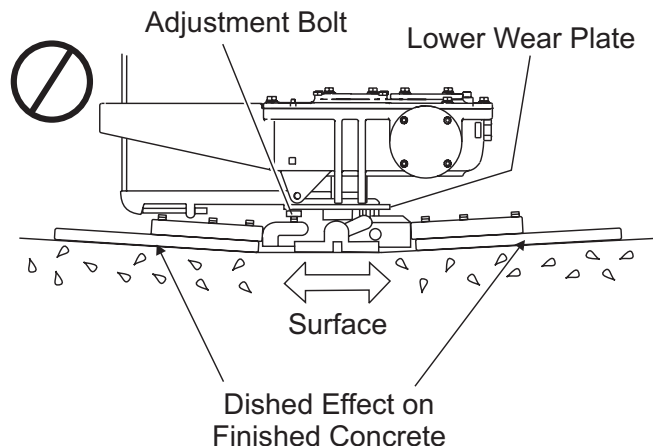

Figure 42. Incorrect Spider Plate Alignment
2. Pitch the blades as flat as possible. The adjustment bolts should all barely make contact with the lower wear plate on the spider. If one is not making contact, adjustment will be necessary (Figure 42).
Figure 42 illustrates incorrect alignment, worn spider bushings, or bent trowel arms. Check that the adjustment bolt is barely touching (0.10" max. clearance) the lower wear plate. All alignment bolts should be spaced the same distance from the lower wear plate.